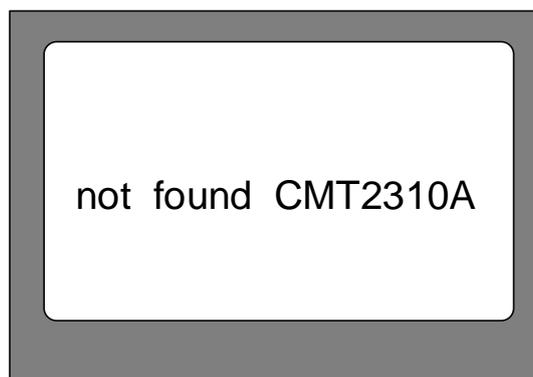
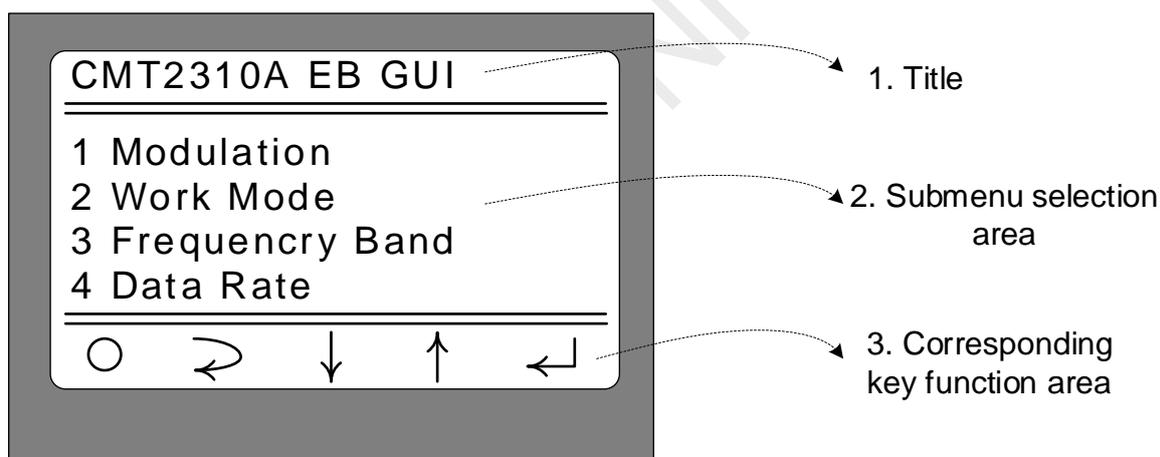

Figure 2-2. Startup Interface (not inserted CMT2310A-EM)
Figure 2-3. Main Menu Interface
- When the CMT2310A-EM is not inserted into CMT2310A-EB, the startup interface of the CMT2310A-EB is shown in Figure 2-2.
After the screen is powered on for about 1 second, the screen will switch to the normal menu mode, as shown in Figure 2-3 below. (If the CMT2310A-EM is not inserted properly or the CMT2310A chip cannot be identified, the screen will remain in the display state as shown in Figure 2-2 until CMT2310A-EM is inserted properly or CMT2310A can be recognized normally.)